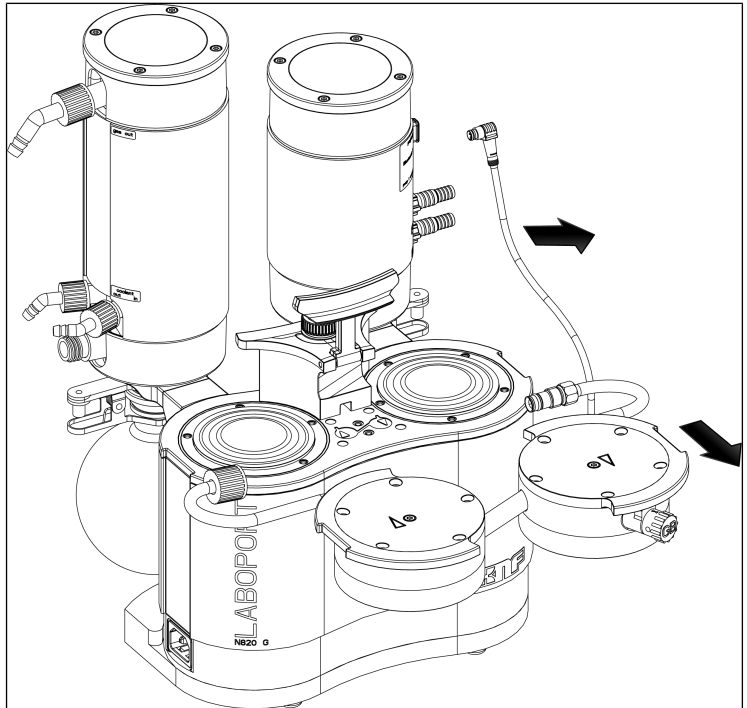

Fig.27: Remove pump heads
- Carefully remove the pump heads to the side (see Fig. 27).